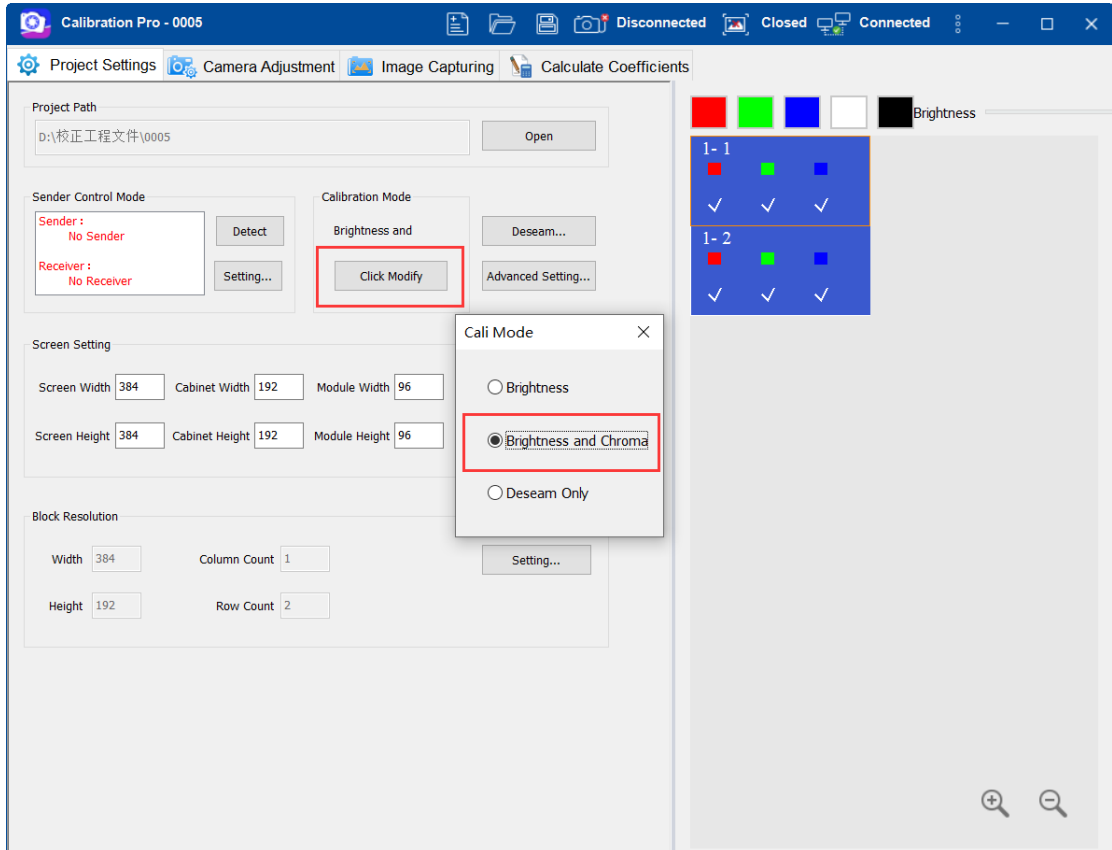

Fig.8-1 Select “Brightness and Chroma” Calibration
1. Select [**Brightness and Chroma**] as calibration type in [**coefficient**] page. As shown in Fig.8-1.